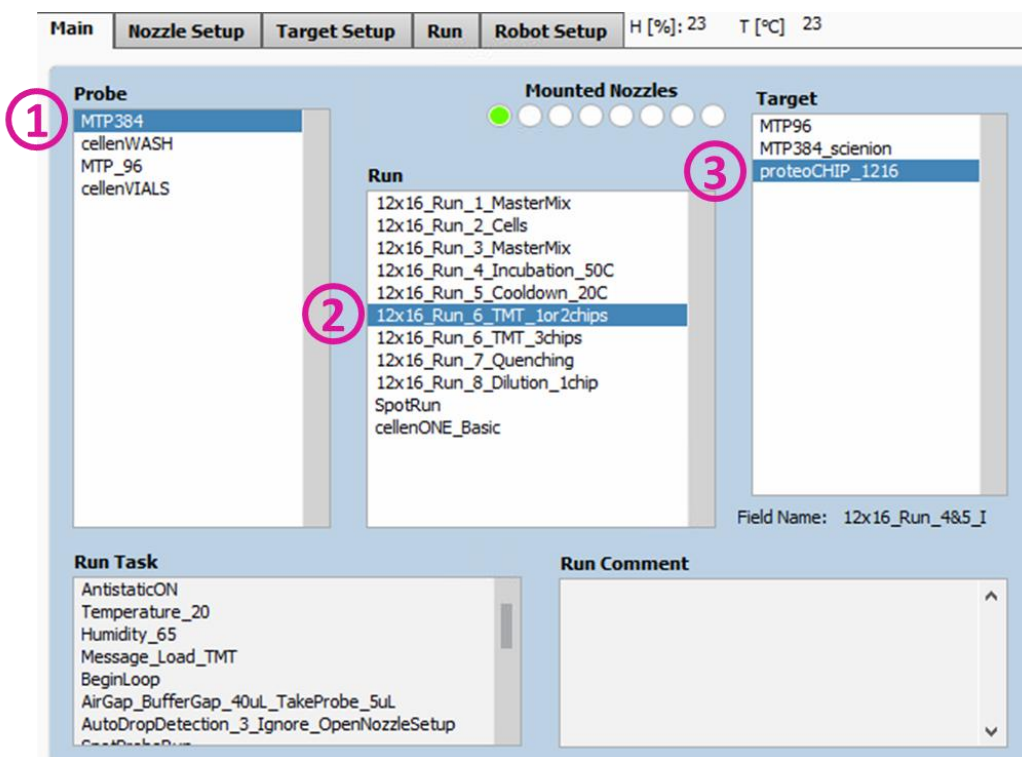

Figure 40: Run for TMT labelling
- Probe: Select the “MTP384” (Figure 40 ①).
- Run: Select “Run_6_TMT_1or2chips” or “Run_6_TMT_3chips” (Figure 40 ②).
- Target: Select “proteoCHIP_1216” (Figure 40 ③).